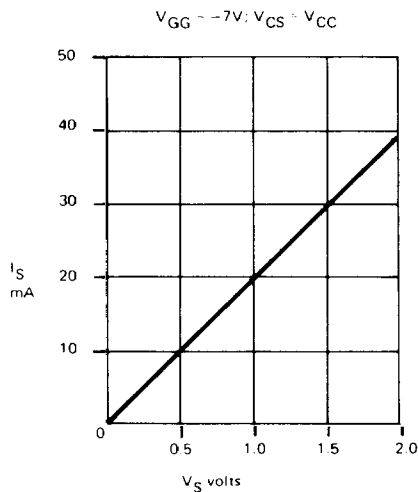

**Fig. 9**
- See also Typical 7-Segment Output Curves, Figs. 9, 11, & 13 (-12V ± 1V)